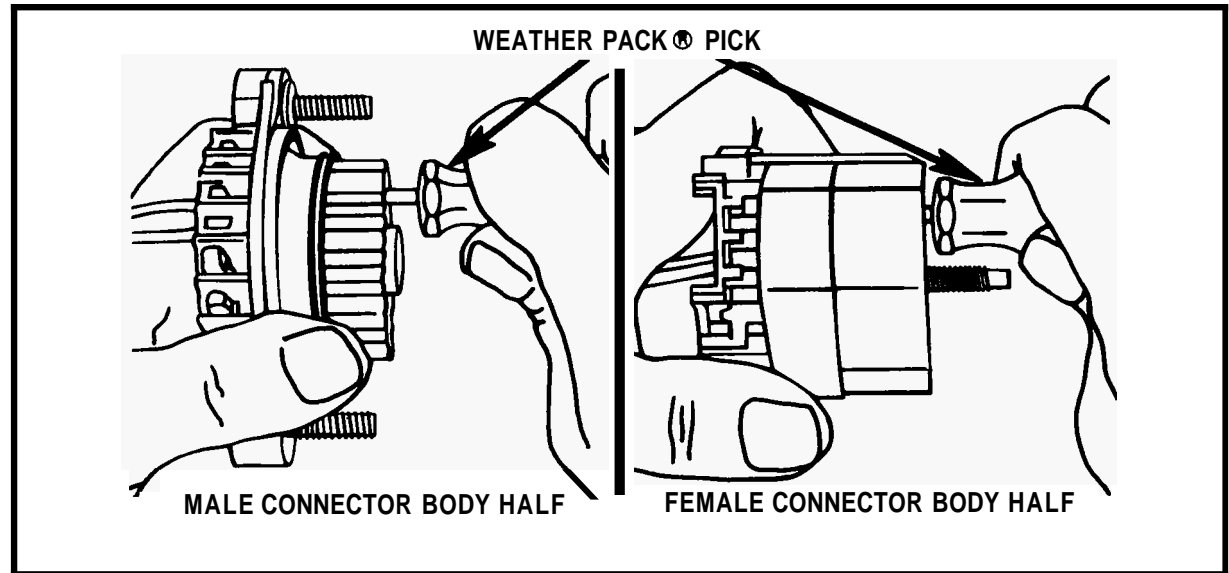
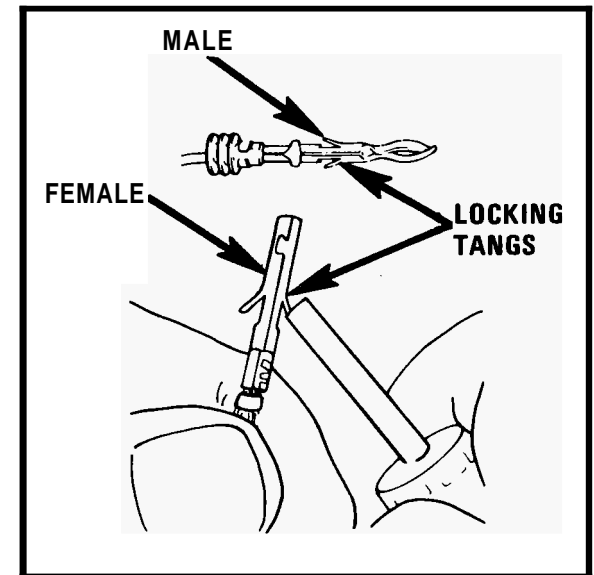

Figure 26 - Releasing The Terminal Locking Tangs (Large Connector)
Figure 28 - Re-Forming The Locking Tang
- Push the hollow cylinder of the pick into the terminal cavity from the front until it stops (see Figures 26 and 27). The pick should surround the terminal (see Figure 28 for drawings of locking tangs).
- Use the pick (528742-A or the equivalent) to bend the locking tang back into its original shape (see Figure 28). Also, check to see that the remainder of the terminal is still in its original shape. (See Step Six for instruction in inserting the lead.)
Before inserting the lead, make certain that the terminal is correctly shaped (see Figure 28). Then, gently insert the lead from the back. The terminal should stop or "catch" about halfway through the connector body. Gently push back and forth on the lead to be sure the terminal is held in place in both directions. If the terminal easily pushes or pulls out, review Step Four; "Re-Form the Locking Tang."